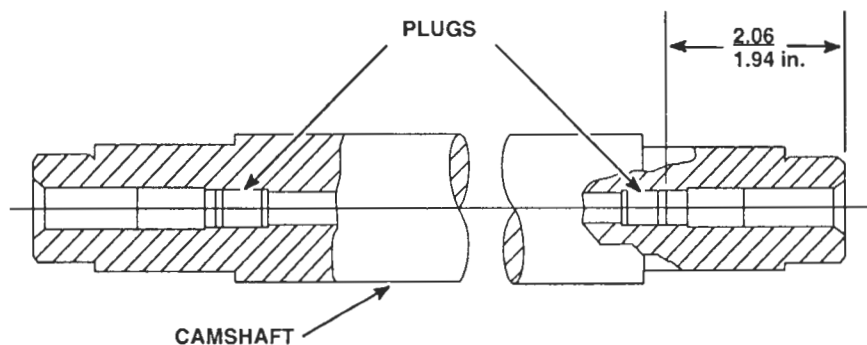

Figure 11. Camshaft Plug Installation
2. Install new end plugs in the camshaft. Press the plugs in to a depth of 1.940 to 2.060 inches (Figure 11.)
8. Align the holes in the camshaft intermediate bearings with the tapped holes in the top of the cylinder block (Figure 11.). Install and tighten the lock screws to 15–20 lb·ft (20–27 N·m) torque.